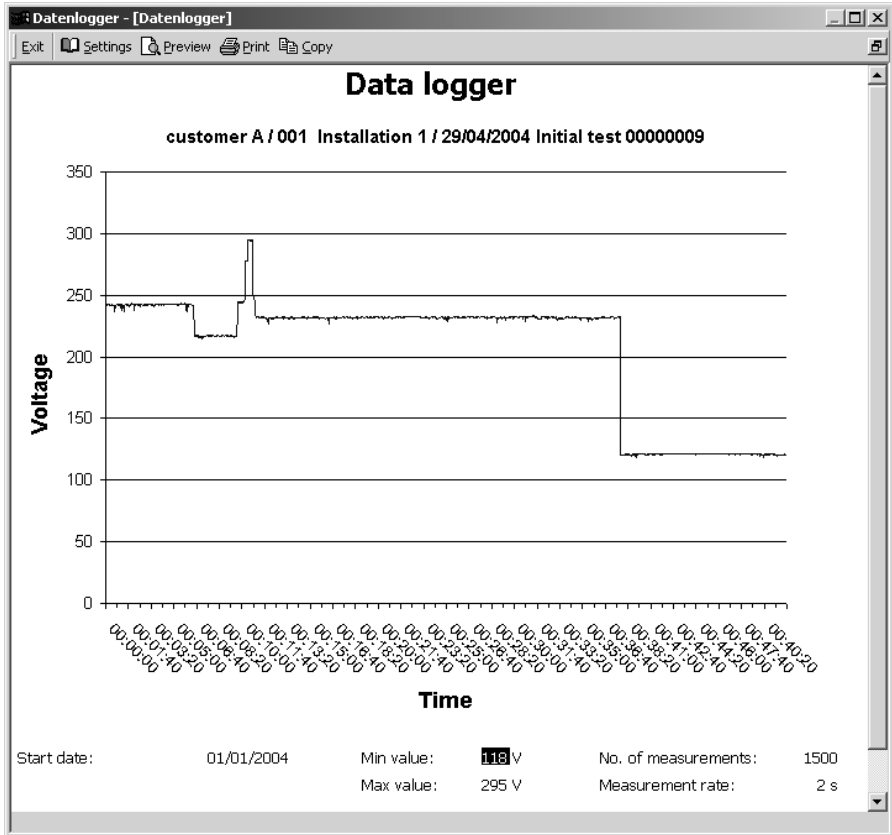

Figure 8.4: “Data Logger” window, graph presentation
The “Data Logger“ (A) button is activated in the “Test” window” (A). By clicking on this button, a window appears, in which the data logger measurements can be viewed and printed. Please refer to Figure 8.4.